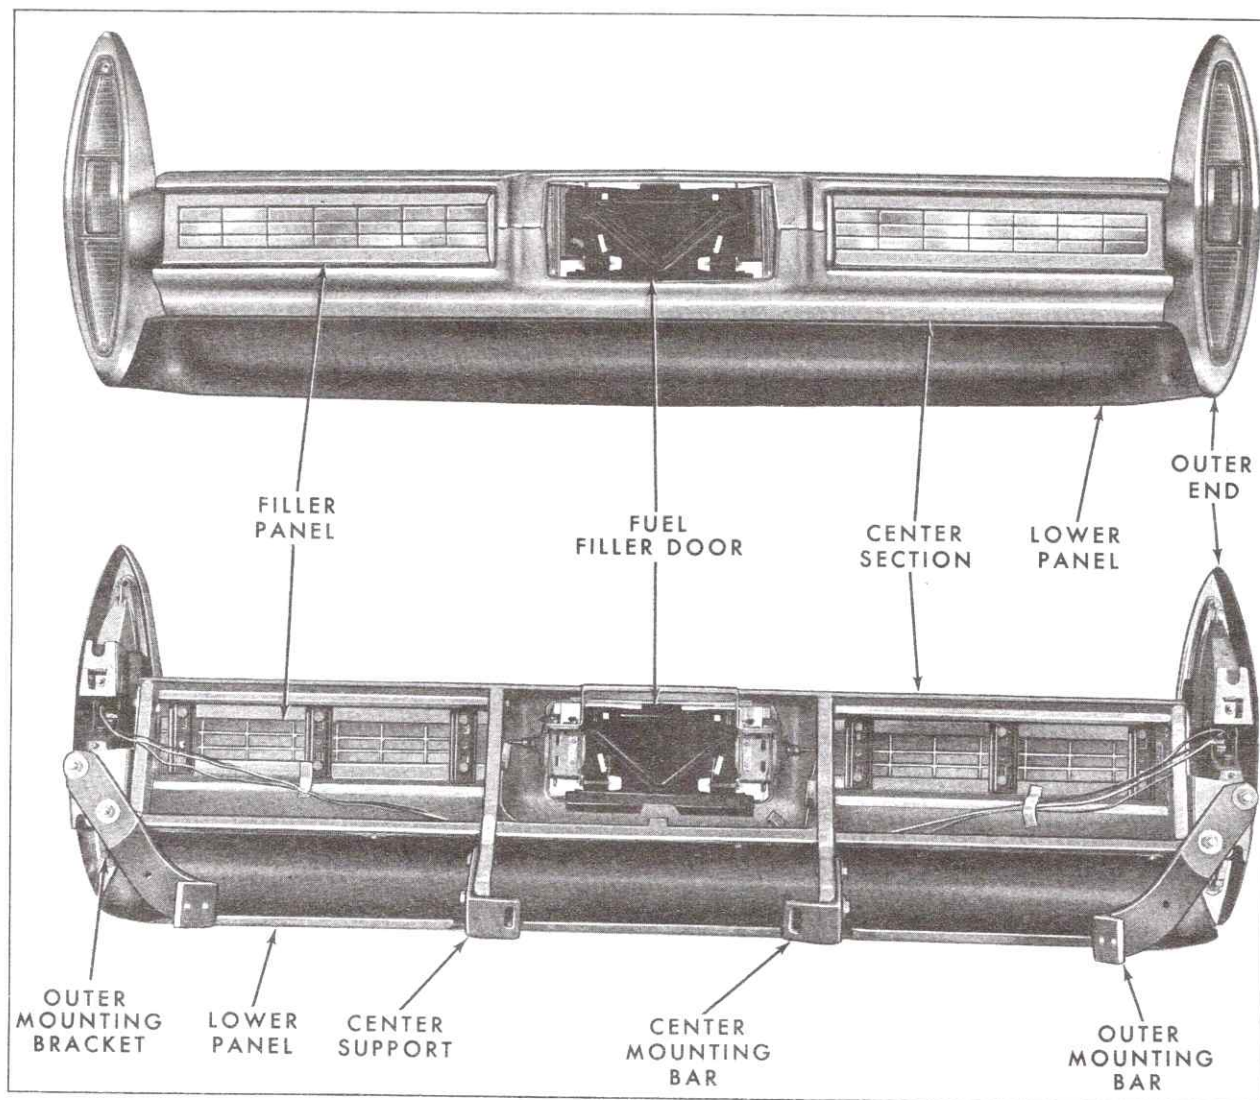

Fig. 14-3 Rear Bumper - Front and Rear View
major sections that are bolted together; the fuel filler door, which also serves as the license holder, right and left filler panels, license guard escutcheon, right and left outer ends, center section and a painted lower panel, Fig. 14-3.
### a. Removal (Fig. 14-3)
### b. Installation (Fig. 14-3)
3. An overall alignment of rear bumper assembly is obtained by using any one or all of the following adjustment combinations, (Figs. 14-3 and 14-4).